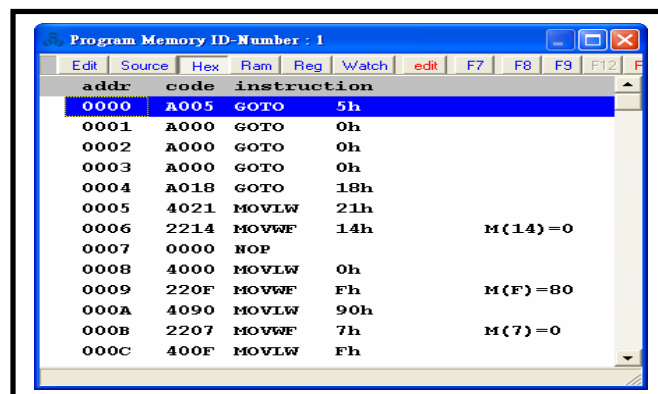

Figure 4.4 "Source" Window
(1) Hot Keys
- **Source:** Press Source button, the screen will jump to “Source” only after entering into soft/hard ware simulation/emulation. Please refer to the Figure 4.4.
(2) File Tabs
If the compiler wants to enter into Code, press 『View->Hex』 or "Hex" in "Source" after user compiles the program. The interface will display the address, machine code and instructions where the compiled code is saved, as shown in the Figure 4.4, i.e. the value will show by 16 hex.